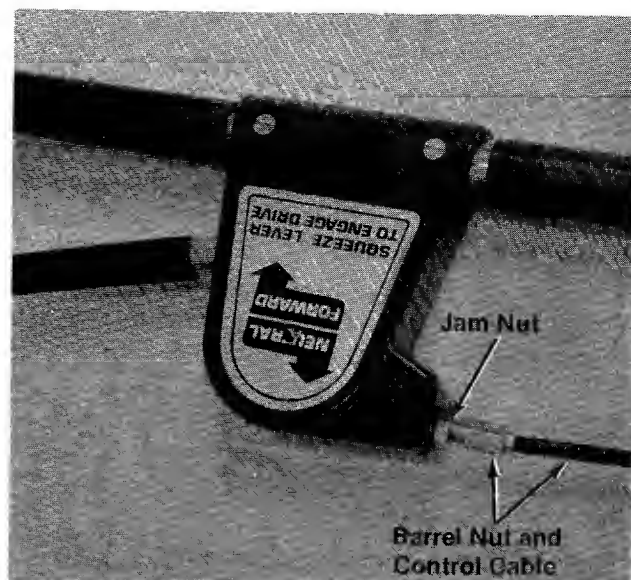

FIGURE 26
1. To increase belt tension, loosen jam nut and backoff two or three threads. (See figure 26.)
2. Thread the barrel nut on end of control cable inward two or three threads, and retighten jam nut. (See figure 26.)
3. To decrease belt tension, loosen jam nut and back off two or three threads. (See figure 26.)
4. Thread the barrel nut on end of control cable outward two or three threads, and retighten jam nut. (See figure 26.)